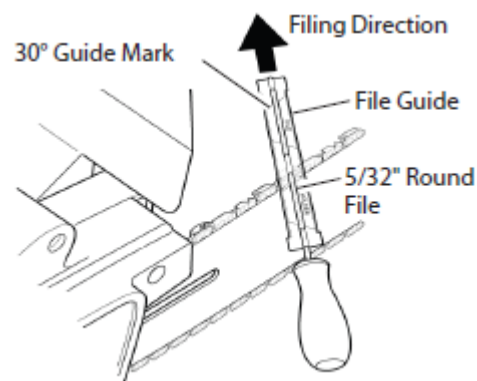

Fig.15
3. Press 4mm or 5/32" round file (attached to file guide) into groove between top plate and depth gauge on chain. File guide should rest on both top plate and depth gauge (see **Fig.15**). (Note: File at midpoint of guide bar.)